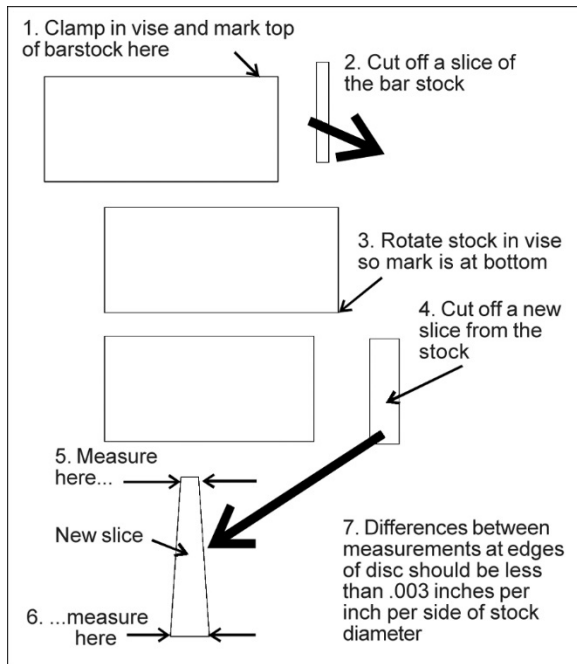

Figure 11
2. With the bar stock securely clamped in the vise, make a cut through the bar stock. See Figure 11.